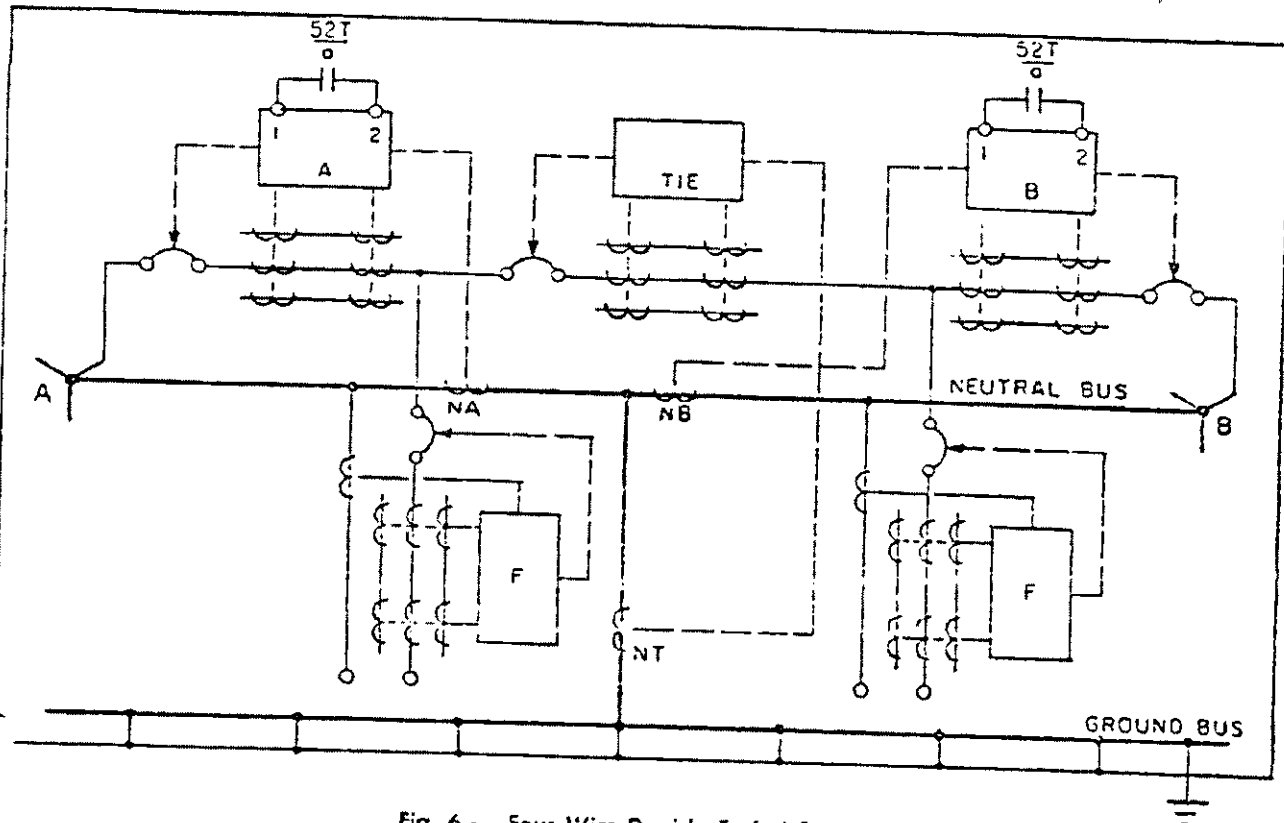

Fig. 6 — Four-Wire Double-Ended System
* REFER TO FIG. 6 FOR LOCATION OF NEUTRAL SENSORS